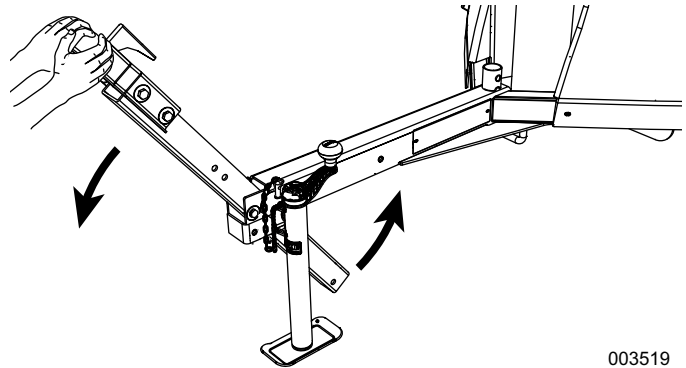

Figure 2-5. Lower Trailer Tongue into Tow Position
6. See Figure 2-5. Using both hands, slowly lower trailer tongue into tow position.